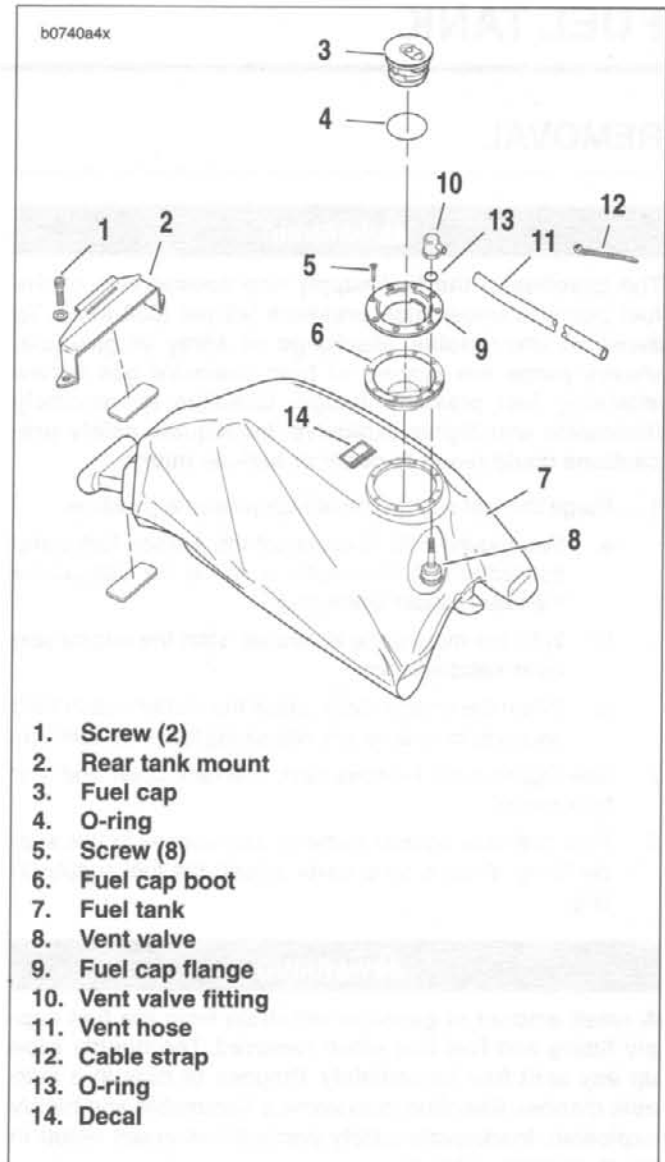
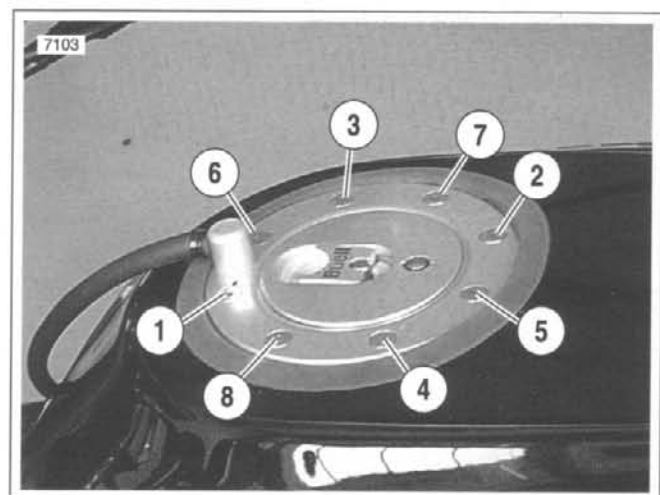

Figure 4-89. Fuel Tank
Figure 4-90. Tightening Flange (Typical)
2. See Figure 4-89. Remove fuel filler cap (3) with attached O-ring (4).
3. Remove screws (5) from fuel cap flange (9).
4. Remove fuel cap flange and fuel cap boot (6).
5. Detach vent valve fitting (10) and vent valve (8) from fuel cap flange.
- b. See Figure 4-90. Tighten screws to 16-18 in-lbs (1.8-2.0 Nm) in the order shown.
2. See Figure 4-89. Connect vent hose (11) to vent valve fitting (10). Clamp hose to fitting with a **new** cable strap (12).
4. See Figure 4-89. Cut cable tie holding vent hose to fitting and remove vent hose from fuel tank.
4. See Figure 4-89. Install **new** O-ring in groove on bottom of **new** fitting.
8. See Figure 4-89. Attach vent hose to nozzle on fitting with **new** cable tie.